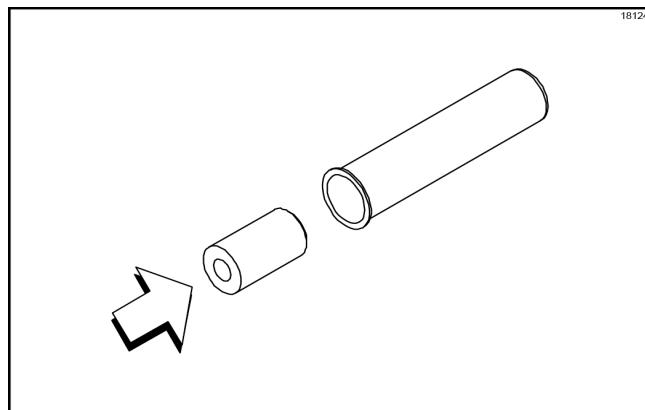

Figure-89
4. Install the plunger insert into the plunger tube by positioning the end of the insert with the small hole and beveled edge to enter the plunger tube first. (See Figure-89.)